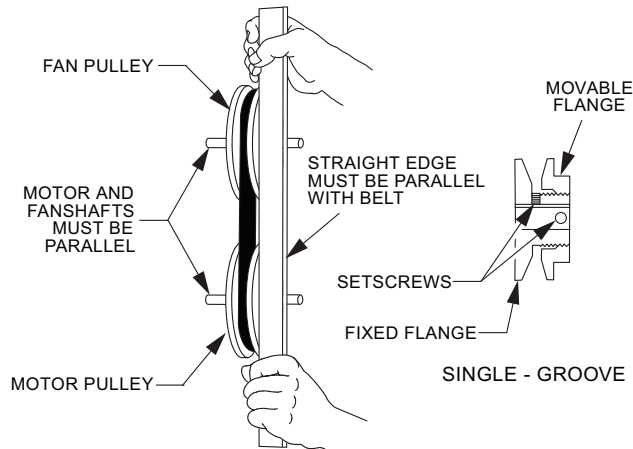

Fig. 7 — Supply-Fan Pulley Adjustment
- Make sure the fan shaft and motor shaft are parallel before tightening the motor mount nuts. See Fig. 7.
- Check the alignment of the pulleys, adjust if necessary. See Fig. 7.
The motor pulley is an adjustable-pitch type that allows a servicer to implement changes in the fan wheel speed to match as-installed ductwork systems. The pulley consists of a fixed flange side that faces the motor (secured to the motor shaft) and a movable flange side that can be rotated around the fixed flange side that increases or reduces the pitch diameter of this driver pulley. (See Fig. 7.)
- Loosen the movable pulley flange setscrew. (See Fig. 7.)
24. Align the motor pulley and blower wheel pulley using a straight edge. See Fig. 7.